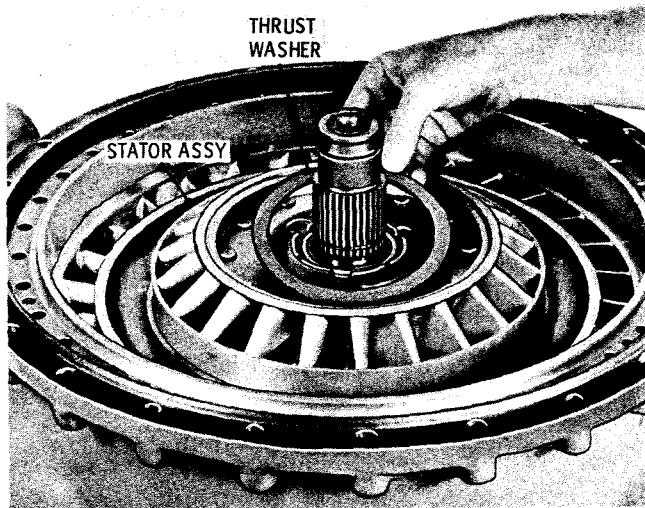

Fig. 7-78. Installing stator front thrust washer (fixed-capacity, 3-element converter)
(7) On the 3-element, fixed-capacity converter install the converter stator assembly (fig. 7-78). Install the thrust washer. Check to make sure the stator freewheels clockwise—locks up in the opposite direction. If used, install the snapping into the groove in the turbine shaft.